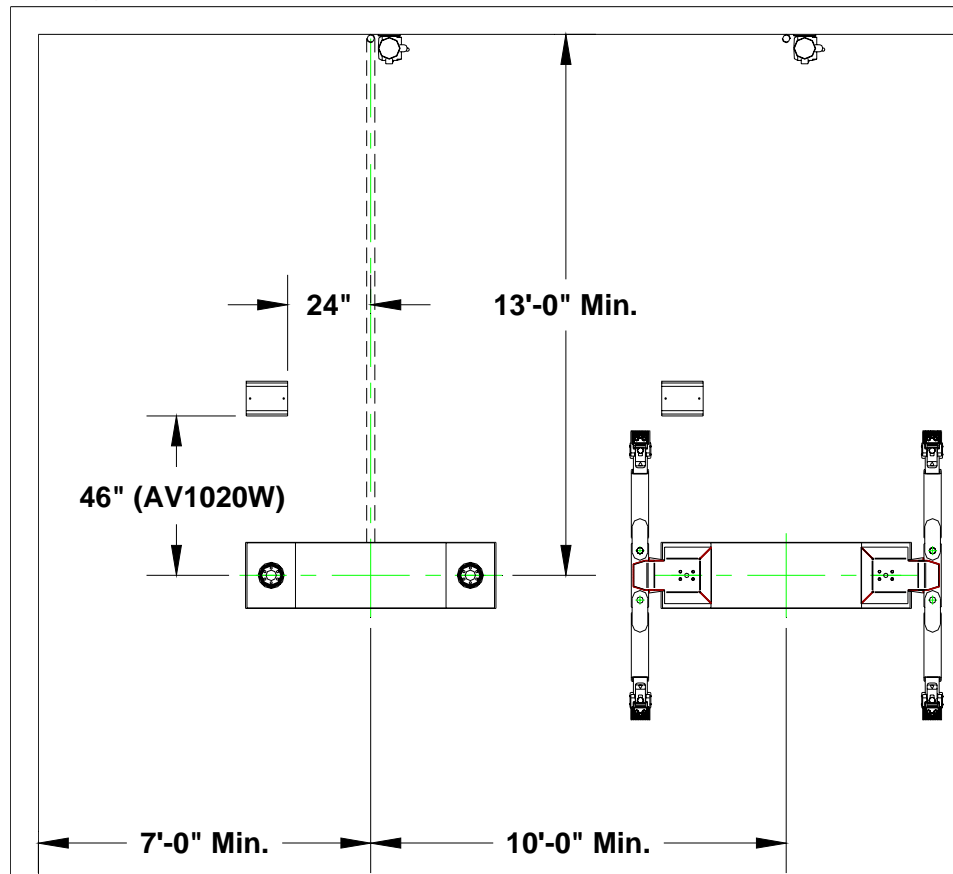

Fig. 1
See Figure 1	AV1020WV
Locate lift to allow plenty of working room on all sides. Allow room for workbenches at front of bay, aisles, lubrication equipment or other obstructions. Check overhead clearances. Ordinarily 12 feet is ample for automobiles. Observe the recommended minimums in Fig 1.
- Using a chain hoist and tripod, fork lift, crane, etc. for lifting; lower the lift / containment assembly in the excavation being sure the PVC inlet hole is toward the control unit location, until the top of the assembly is 1/8" to 1/4" above finished floor level and aligned with the previously determined center lines. Refer to Figures 1 and 3.
26. Locate and install the wheel-spotting pan using the anchors provided. Refer to Figure 1. These are recommended dimensions only and may vary according to the fleet of vehicles being serviced.
Be sure the adapters are in the lowered position and the arms are parked as seen in Figure 1 before attempting to drive on or off of the lift. Failure to do so may damage the adapters or vehicle.